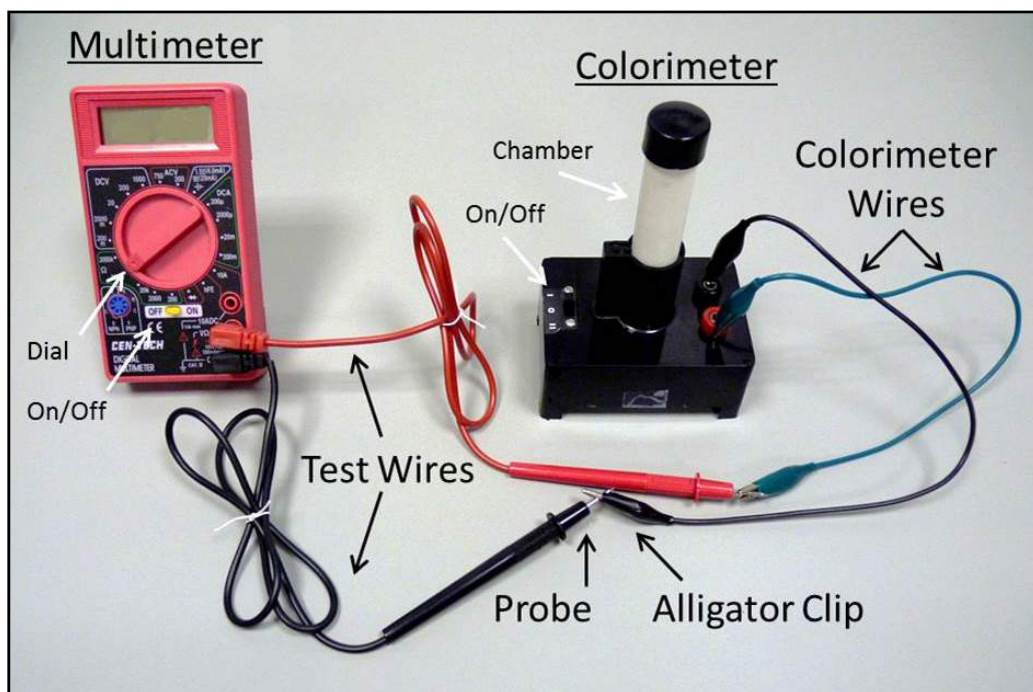

Figure 10. Completed and labeled multimeter/colorimeter assembly.
- Attach the alligator clip that is clipped to the red wire into the red hole of the colorimeter, and attach the alligator clip that is clipped to the black wire into the black hole of the colorimeter. See Figure 10.